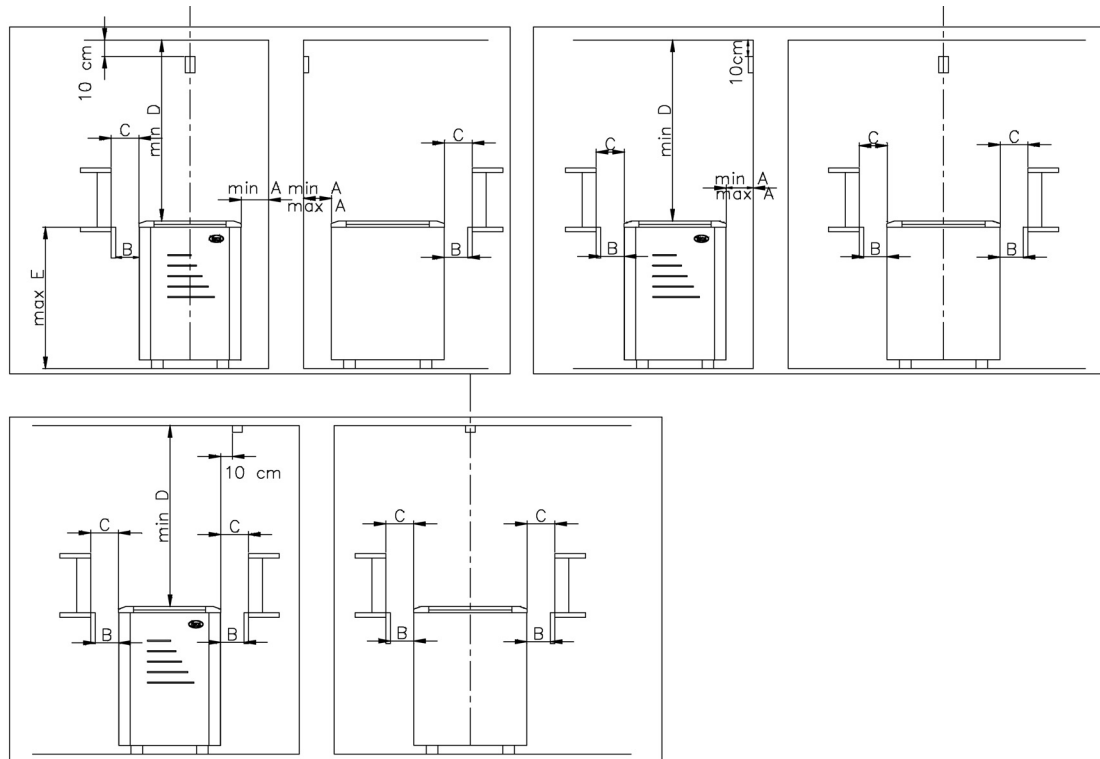

Fig. 2. Installation of sensor box
- For control centres T-2003 and B-2003 the sensor box is installed as shown in Fig. 2